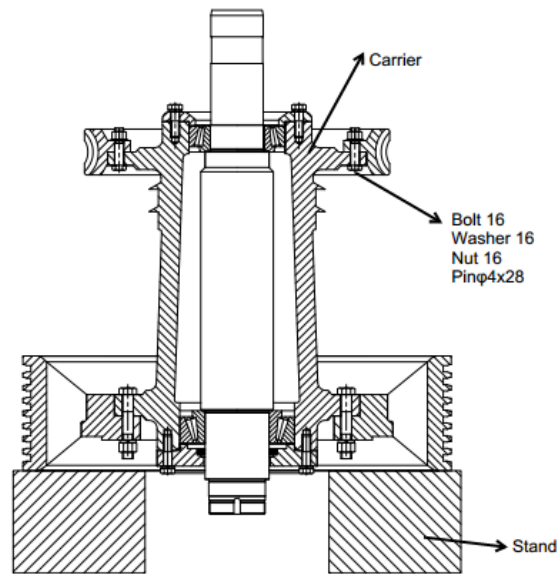

Figure 34 Sheave stands for Ring Gear removal
4. Place two stands under the sheave surface. See Figure 34.